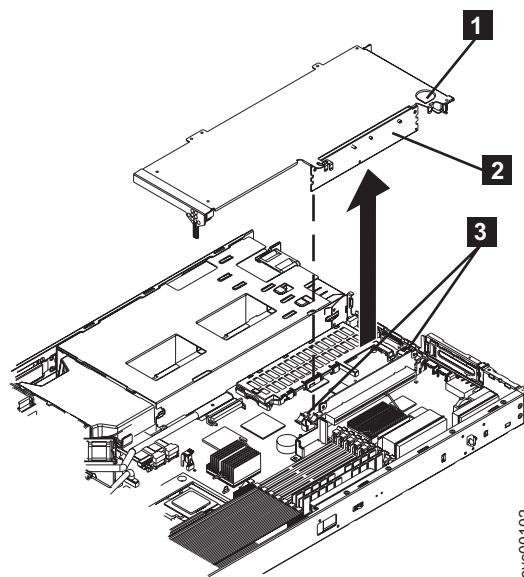

Figure 157. SAN Volume Controller 2145-8F2 or SAN Volume Controller 2145-8F4 slot 2 adapter
- a. Open the retaining clips on both sides of the slot 2 riser card (**2** in Figure 157) by pushing the clips down and away from the riser card until the clips are no longer attached to the riser card.